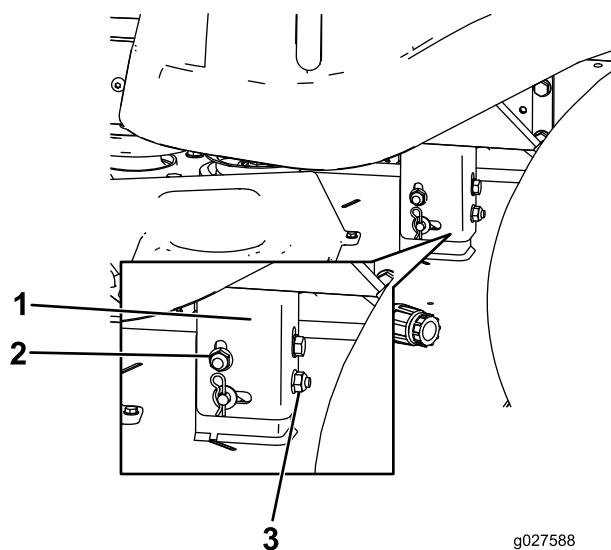

Figure 60
- Raise or lower the left side of the mower deck by rotating the rear nut (Figure 60).
Note: Rotate the rear nut clockwise to raise the mower deck; rotate the rear nut counter-clockwise to lower the mower deck. (Figure 60).